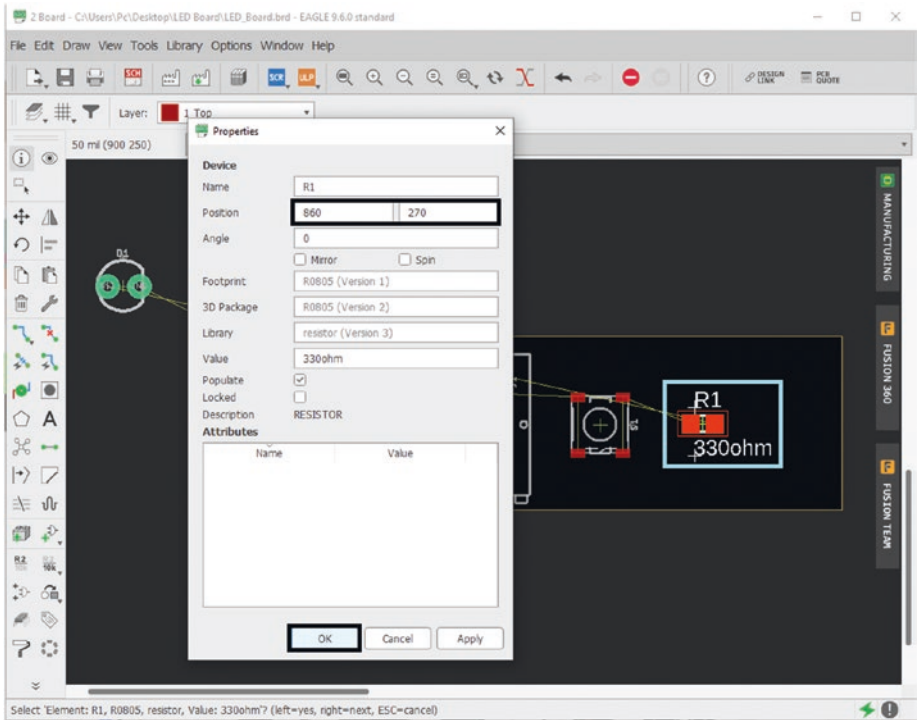

Figure 5-67. Move resistor
16. Now add the resistor to the PCB, positioned at “860” and “270.” See Figure 5-67.